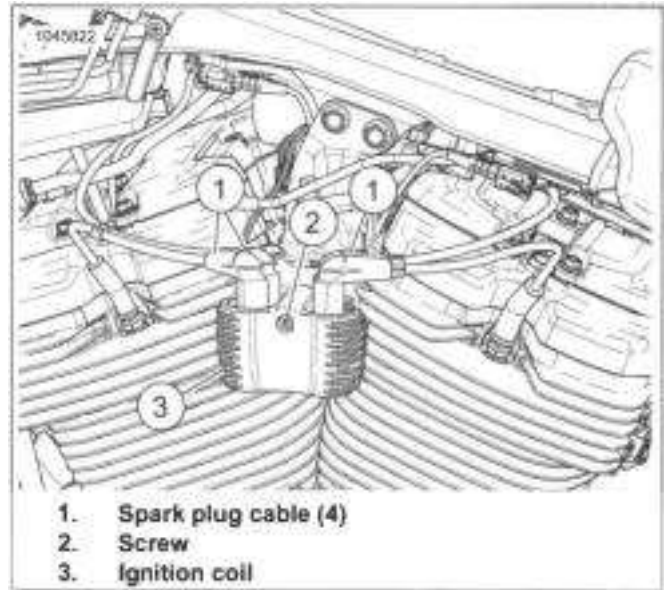

Figure 7-13. Ignition Coil
2. See Figure 7-13. Disconnect spark plug cables (1)
3. Remove screw (2).
4. Remove ignition coil (3).
1. See Figure 7-13. Install ignition coil (3).